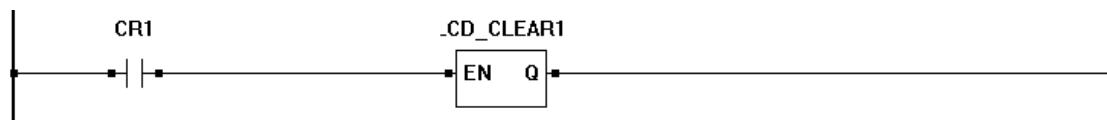

Figure 9-3
To clear the LCD display (blank all rows and columns), the **LCD\_CLEAR** function block is used. The **LCD\_CLEAR** will clear the display when it senses a rising edge on it's enable input (EN). Figure 9-3 shows an example program using the **LCD\_CLEAR** function block.